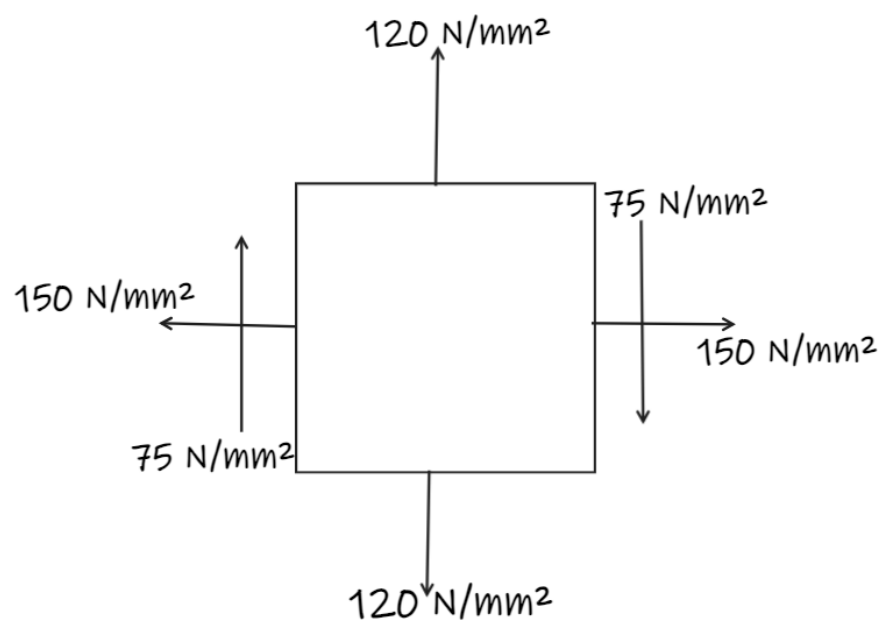

Fig. 5 Q.5 (c) & Q.5 (c)OR
- (c) A strained body is as shown in Fig.5. Determine principle stresses and principle planes by Analytical method. 07